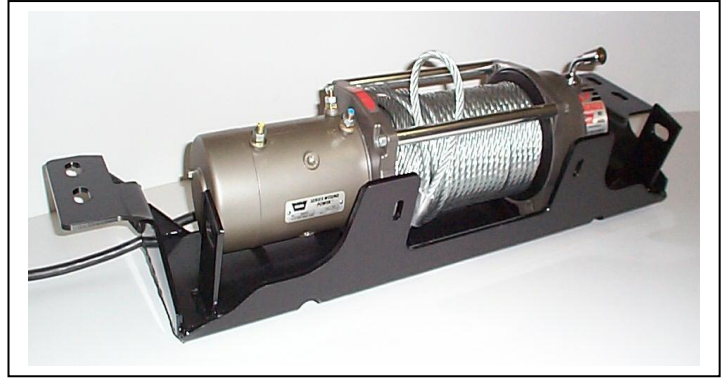

Figure 10
15. Loosely bolt winch to winch frame. Use bolts and spring washers supplied with winch along with ¾ flat washers (supplied). **See figures 10. NOTE:** Feed winch cable through roller fairlead as installing.